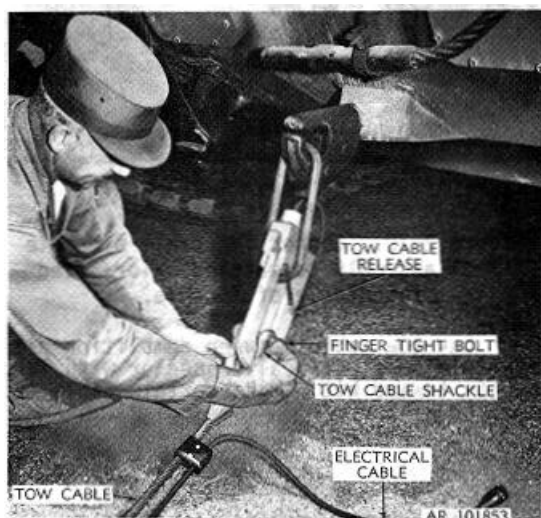

Figure 2-22. Securing shackle to tow cable release.
j. Secure vehicle end of tow cable to tow cable release (fig. 2-22) with shackle and bolt. Secure other end of tow cable to front eyebolt of kit with shackle and bolt.